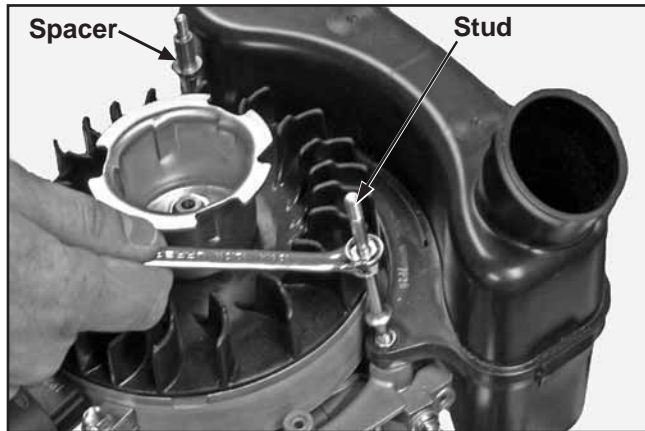

Figure 10-34. Installing Fuel Tank Studs.
3. Secure the top of the fuel tank to the crankcase by installing the two threaded studs. Torque the studs to **10 N·m (88.5 in. lb.)**. See Figure 10-34.
4. Install spacers on both studs. See Figure 10-34.